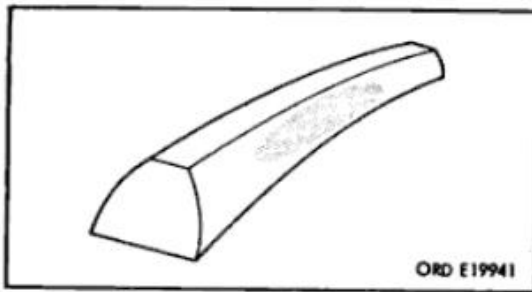

Figure 101. Correct tooth contact
- (1) **Correct tooth contact.** Gear contact centered on bevel gear must show approximately 80% contact (fig. 101) which indicates correct tooth contact.